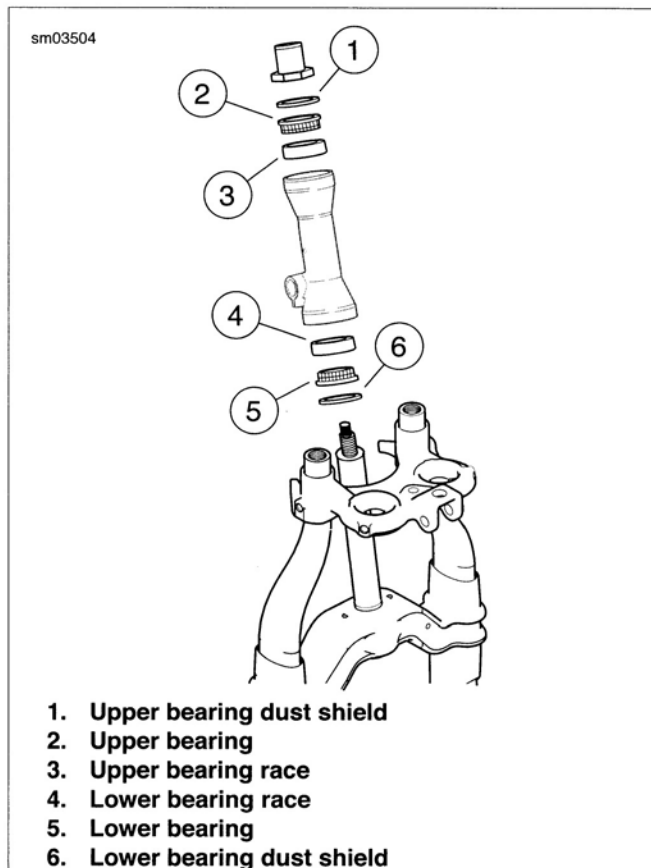

Figure 2-81. Steering Head
2. See Figure 2-81. Remove upper bearing dust shield (1).
3. Remove upper bearing (2).